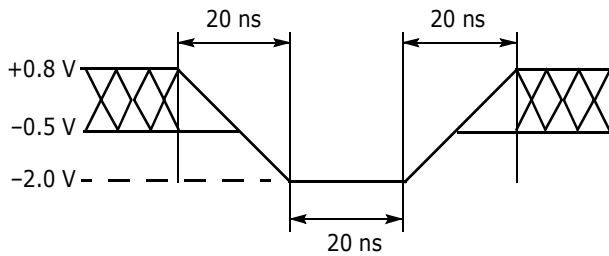
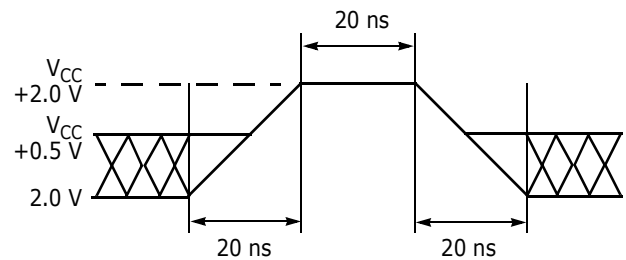

Figure 7. Maximum Negative Overshoot Waveform
Figure 8. Maximum Positive Overshoot Waveform
1. Minimum DC voltage on input or I/Os is -0.5 V. During voltage transitions, inputs or I/Os may overshoot V_{SS} to -2.0 V for periods of up to 20 ns. See Figure 7. Maximum DC voltage on input or I/Os is V_{CC} + 0.5 V. During voltage transitions, input or I/O pins may overshoot to V_{CC} + 2.0 V for periods up to 20 ns. See Figure 8.
2. Minimum DC input voltage on pins A9, OE#, ACC, and RESET# is -0.5 V. During voltage transitions, A9, OE#, ACC, and RESET# may overshoot V_{SS} to -2.0 V for periods of up to 20 ns. See Figure 7. Maximum DC input voltage on pin A9, OE#, ACC, and RESET# is +12.5 V which may overshoot to +14.0V for periods up to 20 ns.